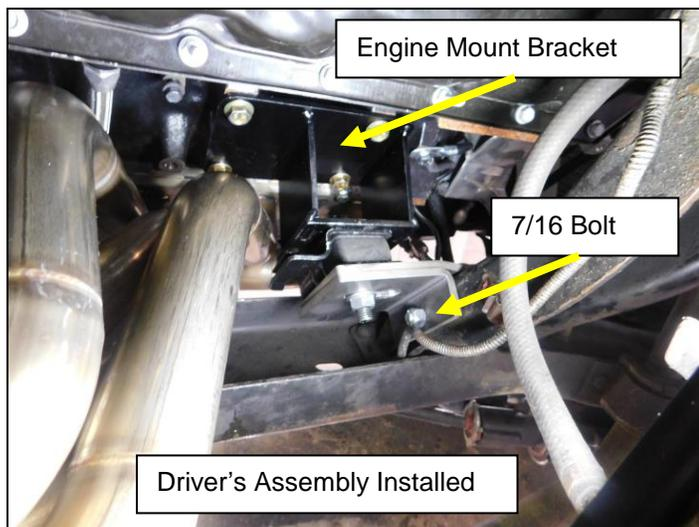

Figure 5
5. Drill the 7/16" hole in the crossmember using the hole in the center of the frame plate support 90° flange as a guide. Install the 7/16 x 1" bolt. Install the flange nut and tighten (**Figures 5 & 6**).